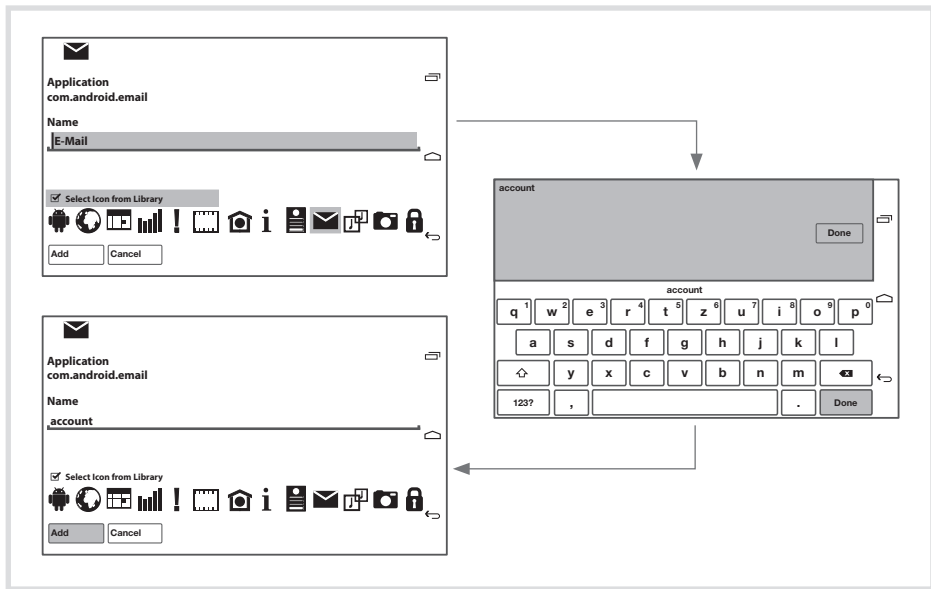

Figure 8: Configuration of the App display
- Define the display of the App on the Launcher page. To do this, activate **Select icon from Library** and select icon from the bottom row (Figure 8).
A window with a keyboard opens (Figure 8).